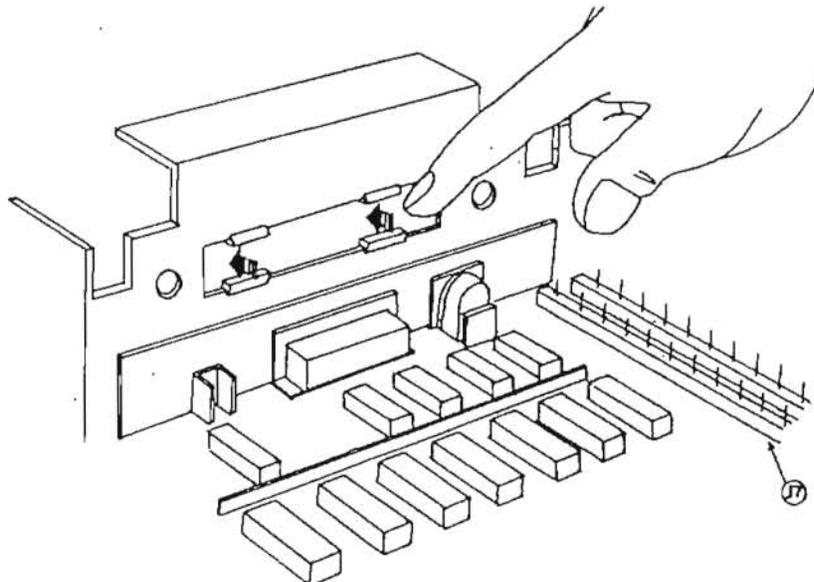

FIGURE 4
Step 6: Push out the plastic panel covering the expansion opening as shown in Figure 4.